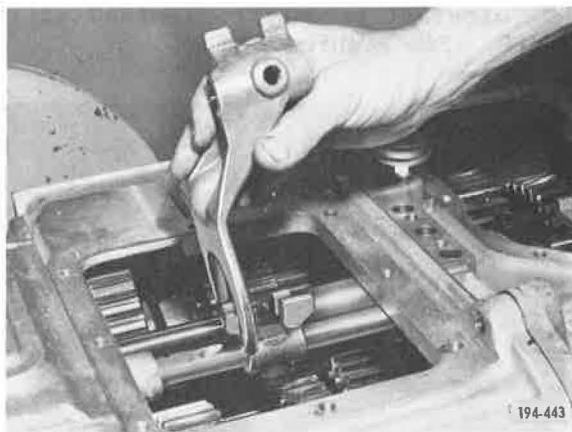

Figure 399. Installing Shift Fork
17. Install fourth/fifth speed shift fork onto its sliding clutch. See Figure 399.